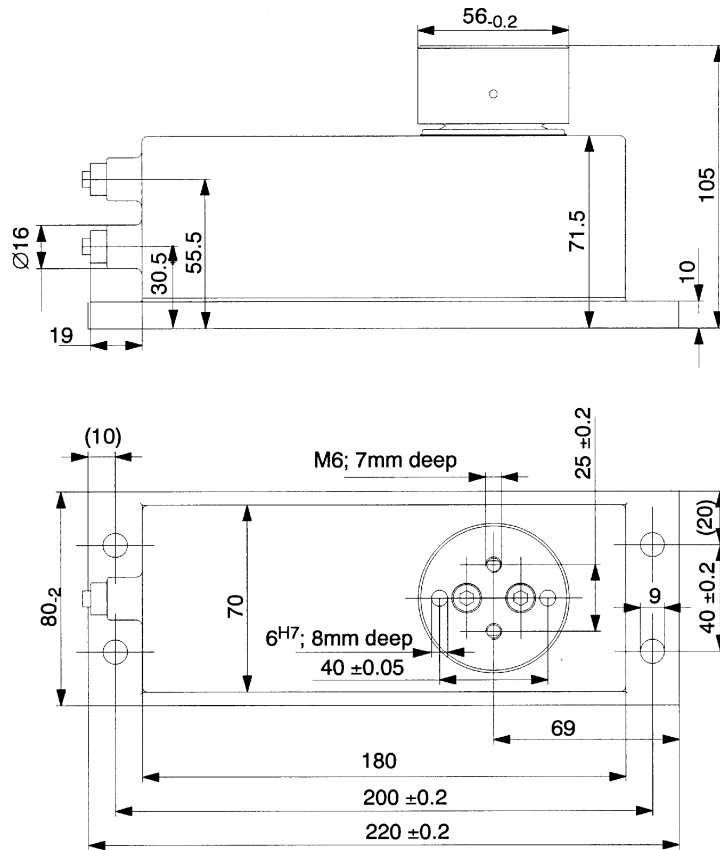

Fig. 3: Dimensions of FIT
In the housing version FIT/H1... the load cell is completely protected by a laser-welded stainless steel housing (Fig. 3). The sealing between the loading part (1) and the housing is realized by a silicone diaphragm. Ventilation channels underneath the loading part (1) provide the pressure balance between the interior and the outside. The FIT load cells are specified for IP 66.